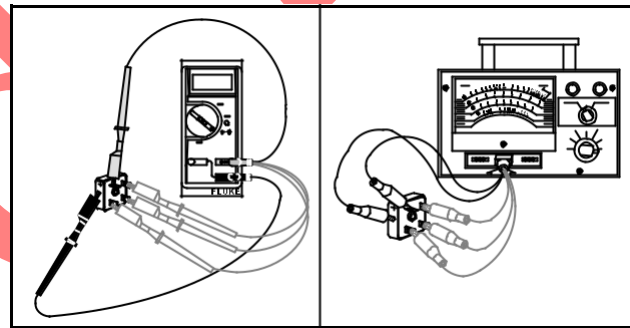

Fig. 706 – CHECKING FOR GROUNDS
2. With BLACK meter test lead contacting metal rectifier case, touch RED meter test lead to each rectifier terminal, Fig. 706.
5. With one lead contacting metal rectifier case, touch other lead to each rectifier terminal, Fig. 706. There should be no continuity from any terminal to case.